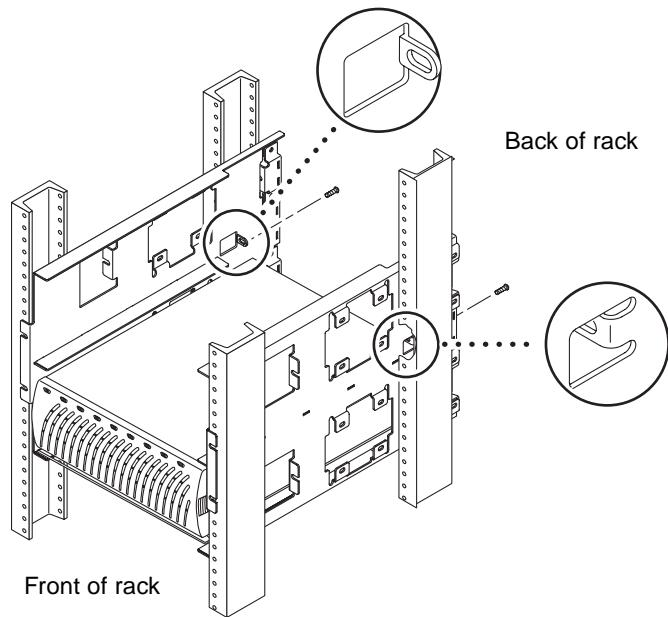

FIGURE 11 Securing the Array to the Side Rails
3. Secure the array to the side rails by inserting two screws (part number 240-3017-01) into the support plate at the back of the array chassis (FIGURE 11).